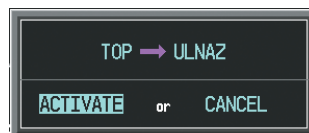

Figure 5-112 Confirm Active Leg
- Press the **ACT LEG** Softkey. The confirmation window is now displayed as in Figure 5-112. Note the TOP to ULNAZ leg is actually part of V4.